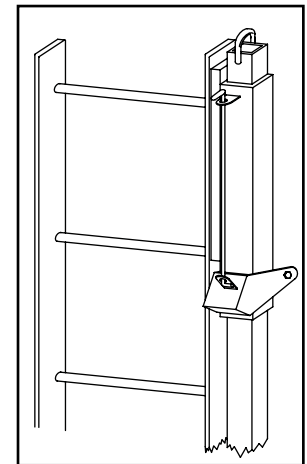

FIG. 3
1. Mount on ladder risers by drilling 7/16" holes through the ladder riser and bolting through. (Fig. 3)